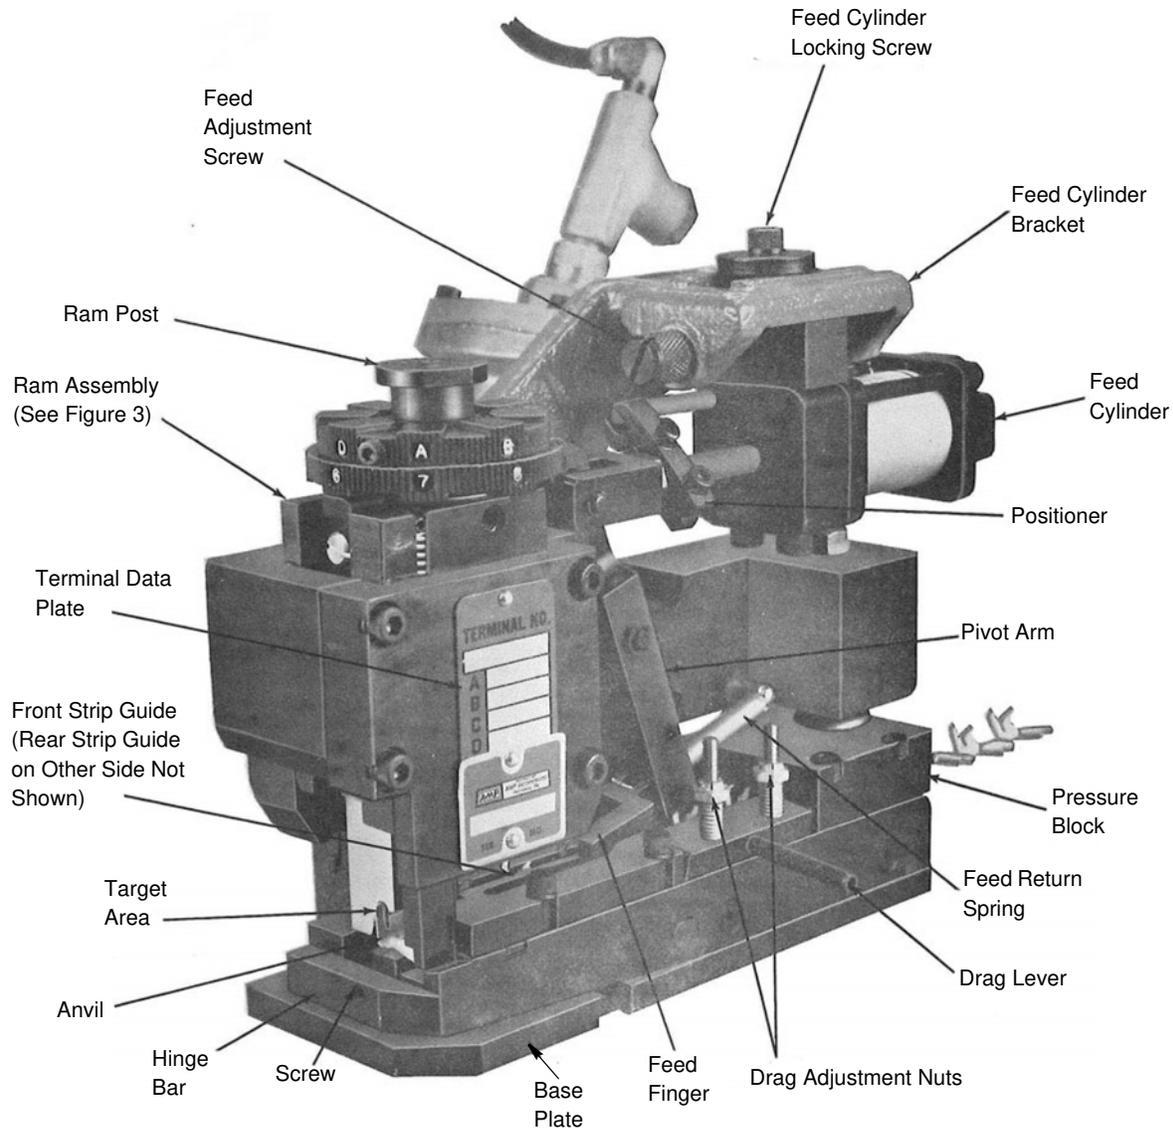
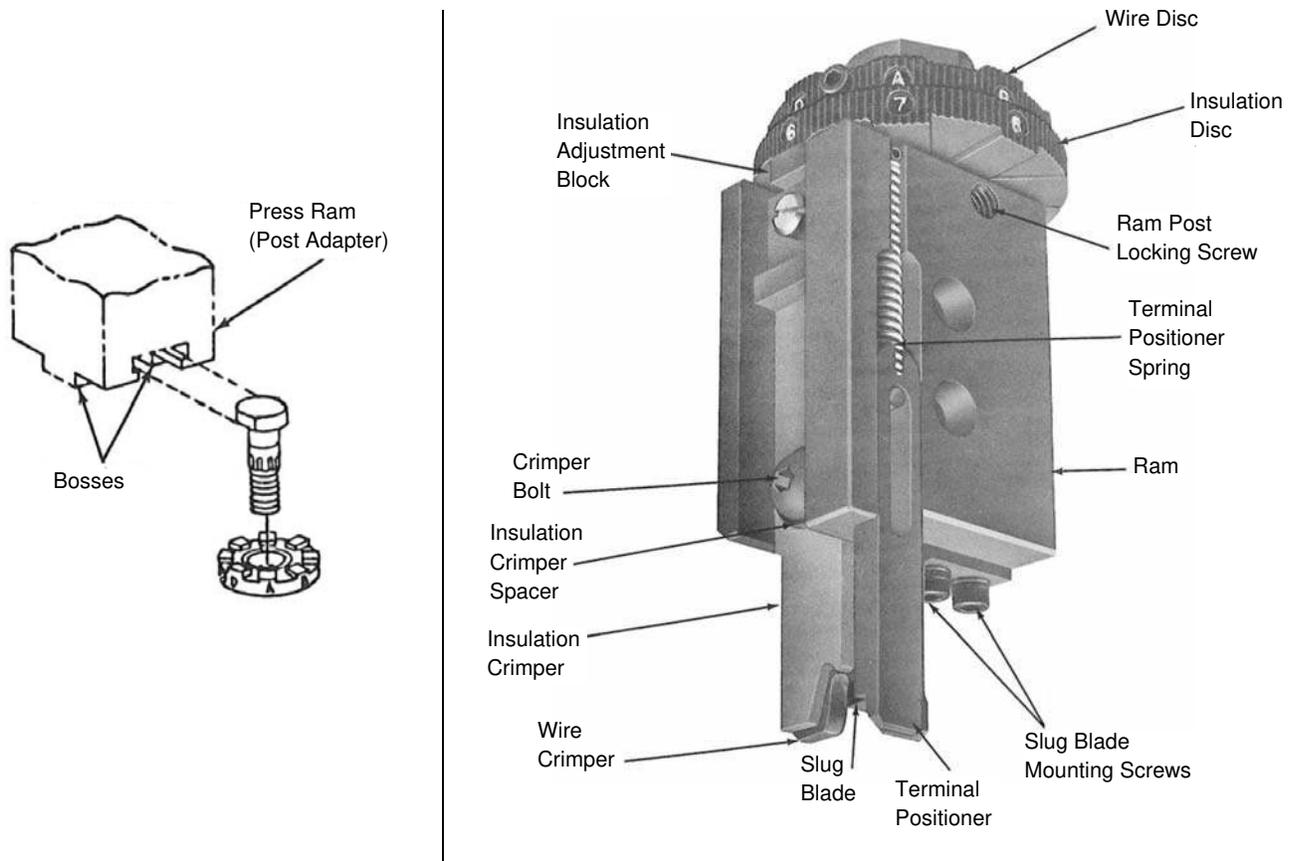

Figure 2
Figure 3
The ram post (also referred to as the ram mounting post), shown in Figure 2, engages the post adapter of the machine ram (see Figure 3), and it is the machine ram that actuates the applicator. Just below the ram post are a wire disc and an insulation disc. The wire disc has as many as four pairs of pads, depending on the number of different wire sizes the terminals will accept. Each pair of pads has a different height. By rotating the disc, each pair of pads can be aligned with the two bosses on the machine ram post adapter (see Figure 3) to vary the depth of stroke of the wire crimpers over the anvil. The insulation disc contains eight pads of differing heights.
The wire crimper, held in a preset position by a screw in its upper end and by the crimper bolt, is attached to the ram assembly (Figure 3). The insulation crimper is also held by the crimper bolt, but is free to move vertically so the insulation crimp may be varied in relation to the wire crimp. The slug blade, which cuts the connecting tab from between the lead and second terminals, is attached to the bottom of the ram assembly. The spring-loaded terminal positioner, located on the bottom of the ram assembly, acts as a terminal hold-down during the crimping and shearing process.
3. Place applicator on machine base mount, insert ram post in machine ram post adapter (see Figure 3), and slide the applicator into position against stops.
7. Slide applicator forward until ram post is clear of press ram post adapter (see Figure 3), then lift applicator from base mount on machine.
2. Rotate applicator's wire disc (upper disc) to align selected pad letter with bosses on press ram post adapter (see Figure 3). This should provide proper crimp height for that wire size.
6. Loosen slightly the feed cylinder locking screw on top of feed cylinder bracket (see Figure 2).
1. Turn the drag adjustment nuts (see Figure 2) DOWN to INCREASE drag, or UP to DECREASE drag.